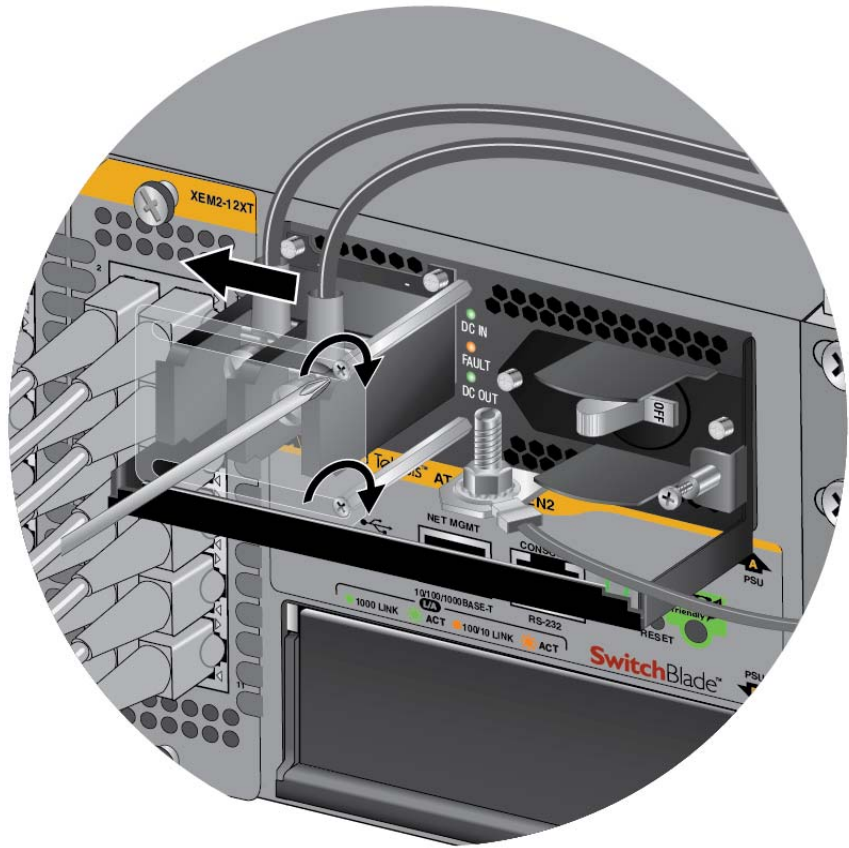

Figure 68. Closing the Plastic Cover over the Terminal Connectors
8. Slide the plastic cover to the left and lightly tighten the two screws with a #1 Phillips-head screwdriver to secure the cover. See Figure 68 on page 99. You might need to lift the locking handle slightly to access the bottom screw.
6. Slide the plastic cover to the left and lightly tighten the two screws with a #1 Phillips-head screwdriver to secure the cover. See Figure 68 on page 99. You might need to lift the locking handle slightly to access the bottom screw.